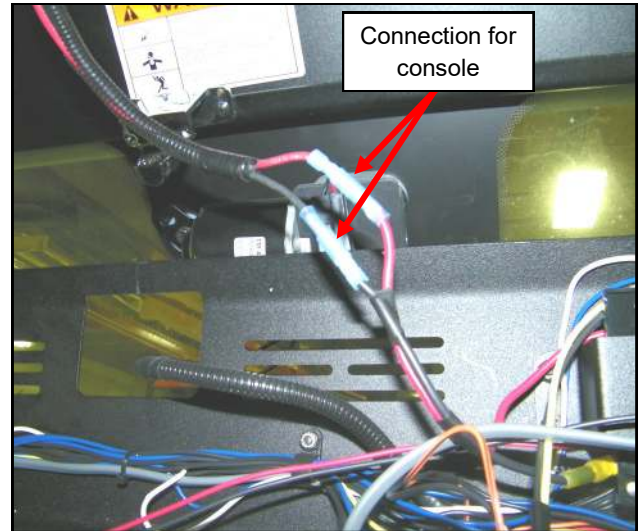

Fig. 2.5
- 2.5 Unplug the wiper connector from the cab and connect to the connector inside the console. See figure 2.5.